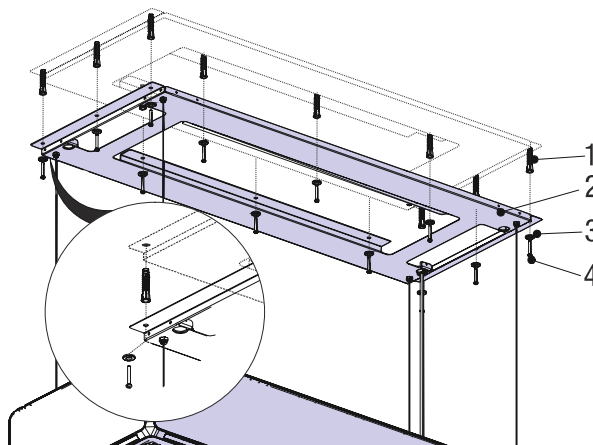

Fig. 26
7. ➔ Screw the ceiling hanger, which you have already attached to the ceiling with a 12x 5.5 x 60 hanger screw, with Ø10mm plastic dowels (Fig. 26).